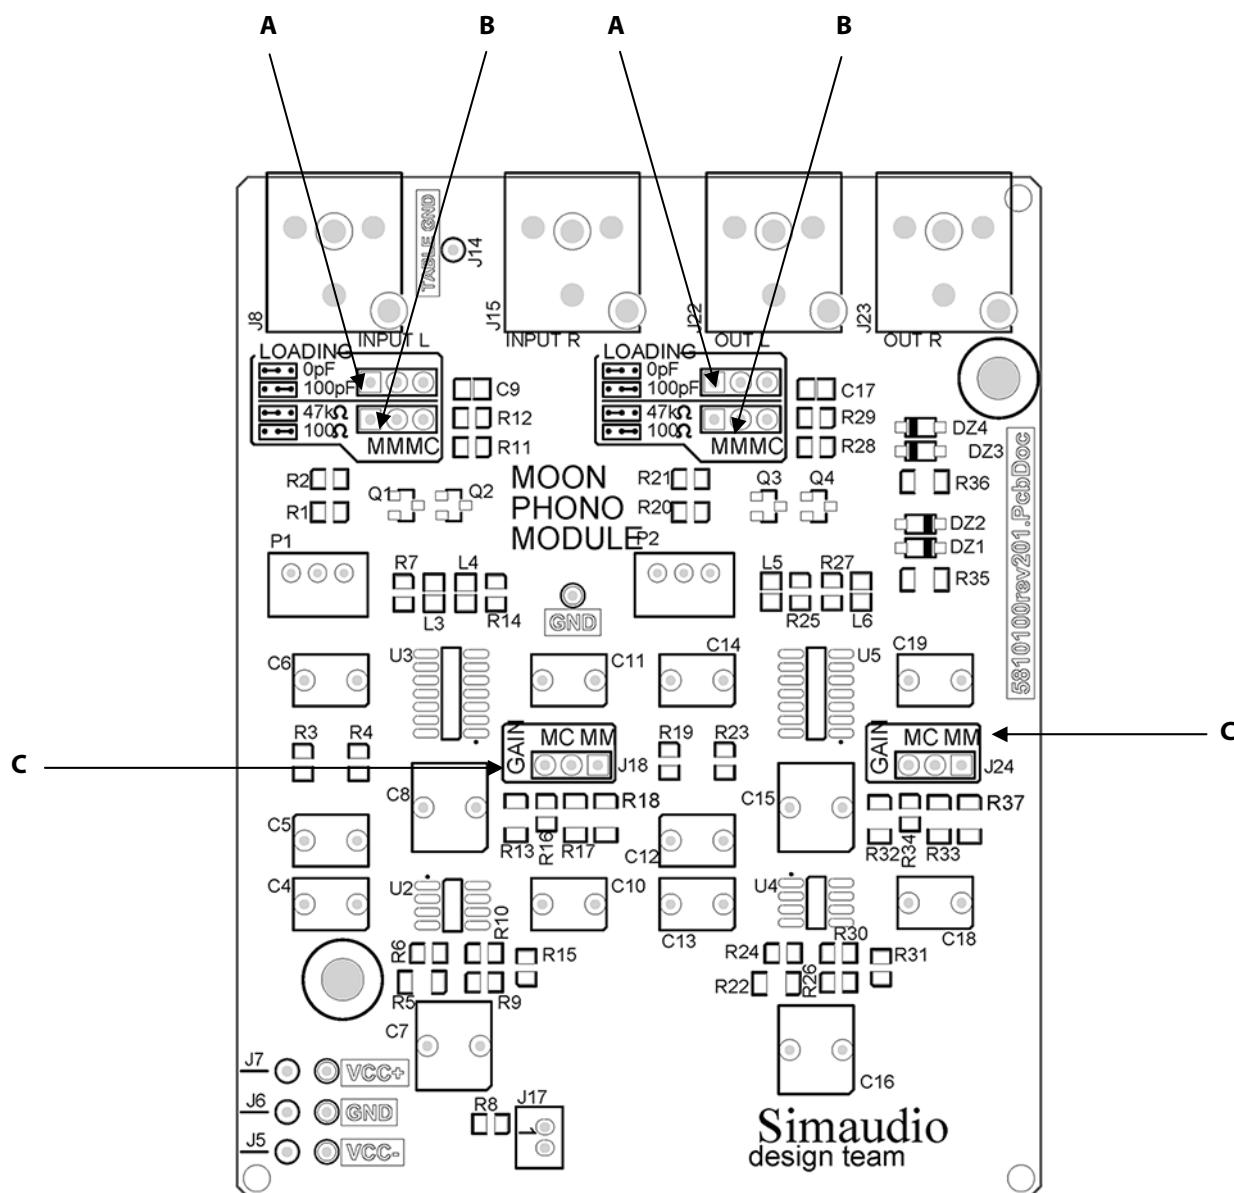

Figure 1: MOON 110LP Circuit Board layout
There are two (2) different settings available for each the resistive load and capacitive load; One for moving magnet (MM) cartridges and moving coil cartridges (MC). The **110LP** has a factory default setting for an MM cartridge (refer to figure 1). The capacitance is set to 100pF, whereby both of the jumpers are mounted into the two right-most pins in socket **C9** (left channel) and socket **C17** (right channel). The resistance is set to
The gain setting for an MM cartridge should be 40dB (refer to figure 1), whereby the jumpers are mounted into the right-most pins for socket **J18** (left channel) and socket **J24** (right channel).
To configure your **MOON 110LP** for use with a moving coil (MC) cartridge (refer to figure 1), we recommend setting the capacitance to 0pF, whereby both of the jumpers are mounted into the two left-most pins in socket **C9** (left channel) and socket **C17** (right channel). **The resistance must be set to 100 Ω** , whereby both of the jumpers are mounted into the two right-most pins in socket **R12** (left channel) and socket **R29** (right channel).
The gain setting for an MC cartridge should be 60dB (refer to figure 1), whereby the jumpers are mounted into the left-most pins for socket **J18** (left channel) and socket **J24** (right channel).